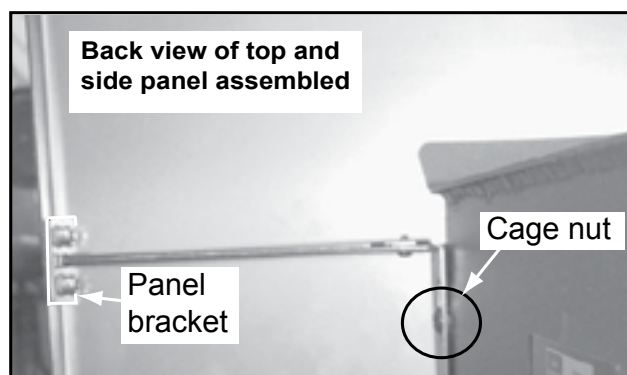

Figure 20.3
- a. Loosely install the 2 side panels, do not tighten, using the cage nuts already attached to the appliance. (Note: The sides are not interchangeable). **Figure 20.3.**